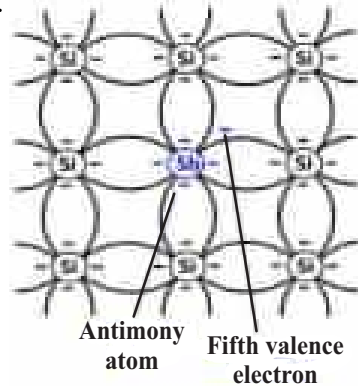

Figure 22.2 N-type
A small amount of a group-V element (penta-valent) is doped into the semiconductor's crystal lattice, as illustrated in figure 22.2. Common donor impurities include phosphorus (P) or arsenic (As).